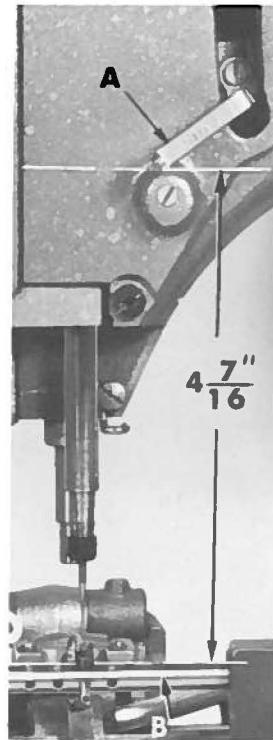

Fig. 15
The needle lever eyelet (A, Fig. 15) is set correctly when the underside of the eyelet is  $4 \frac{7}{16}$  inches above the top of the retainer drive shaft (B).
With the needle lever at the bottom of its stroke, the needle lever eyelet (A, Fig. 15) is set correctly when the underside of the eyelet is  $4 \frac{7}{16}$  inches above the top of the retainer drive shaft (B).